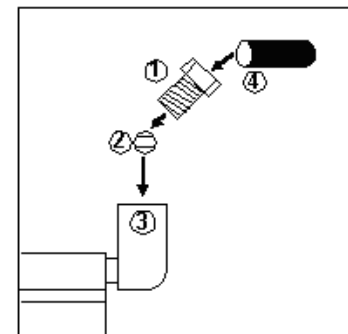

Fig. 4
Solderless tube connection (double tapered sleeves) can be used. The tube must go through compressed bushing and double tapered sleeve (See Fig. 4). To avoid any leaking during running service time, it should be observed up to 1mm distance between the tube(4) end to the double sleeve(2). Insert tube end into counterbored port (3) up to the stop. First tighten compressed bushing finger-tight by hand. Then turn another 1 1/2 turns. The elbow adapter with check valve on the resistance type lubrication unit is specified. Never change it by yourself.